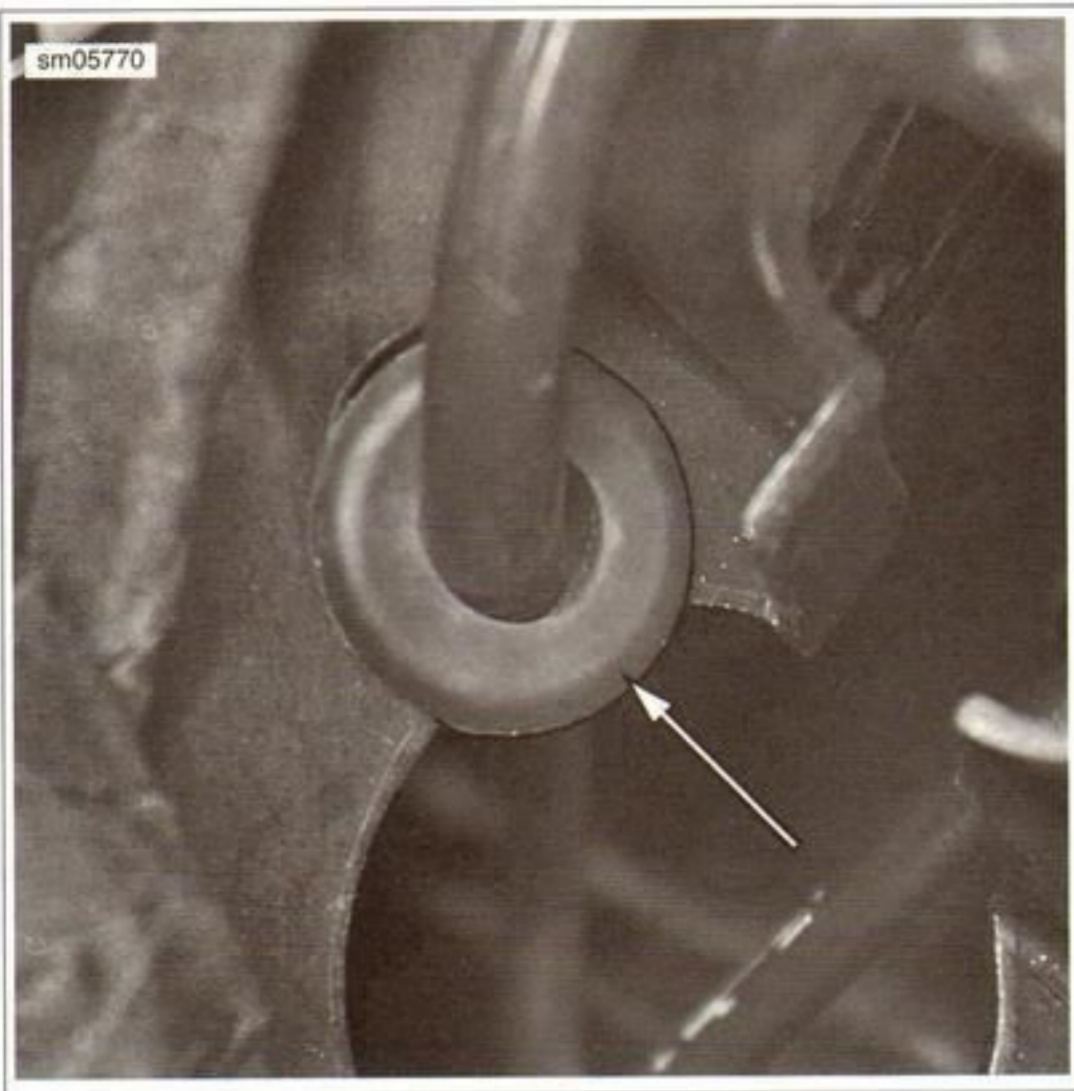

Figure 7-15. Negative Battery Cable Grommet
2. See Figure 7-15. Thread the cable down the shock opening in the subframe pan, and press the grommet into the pan edges.